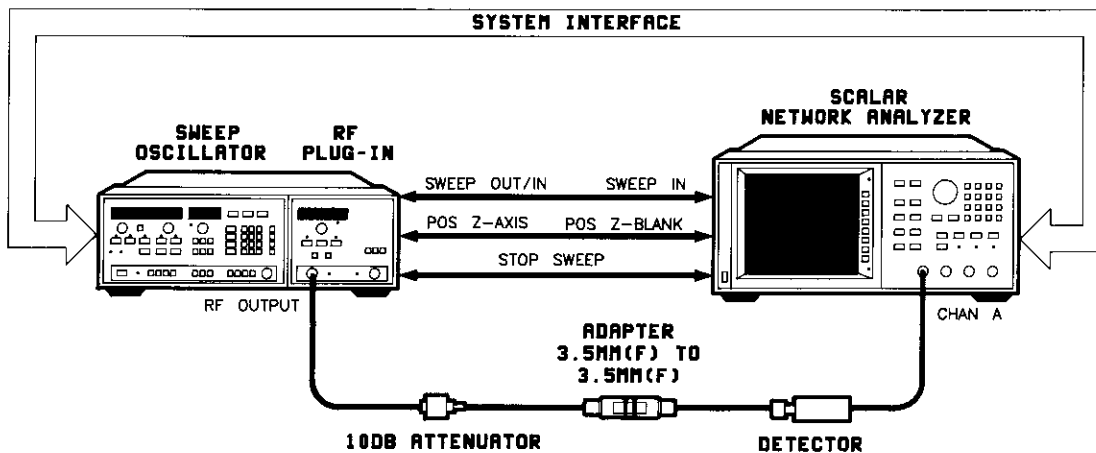

Figure 5-16. Slow Sweep SYTM to YO Tracking Test Setup
1. Connect the equipment as shown in Figure 5-16. Allow the equipment to warm up for 1 hour.